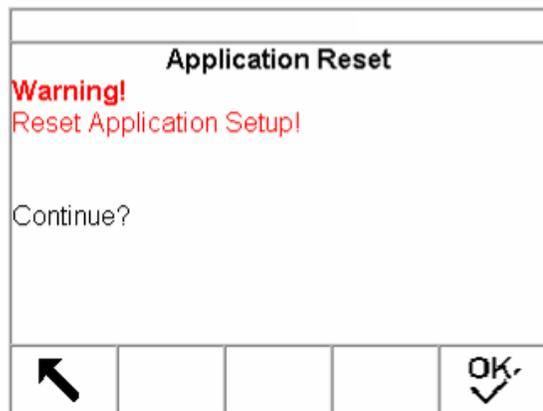

Figure 3-16: Setup Application Default Reset Screen
13. Press the ENTER key to open the Reset screen (see Figure 3-16).